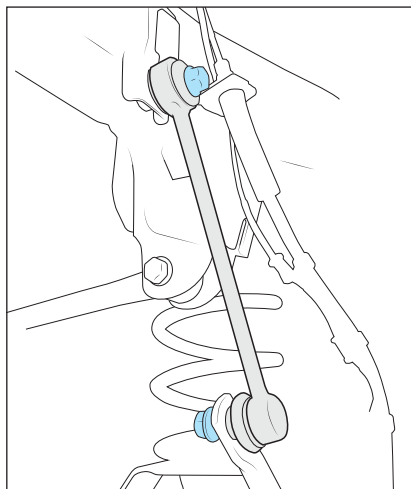

Figure 5
7. Remove sway bar endlinks and SAVE upper mounting hardware (fig. 5).